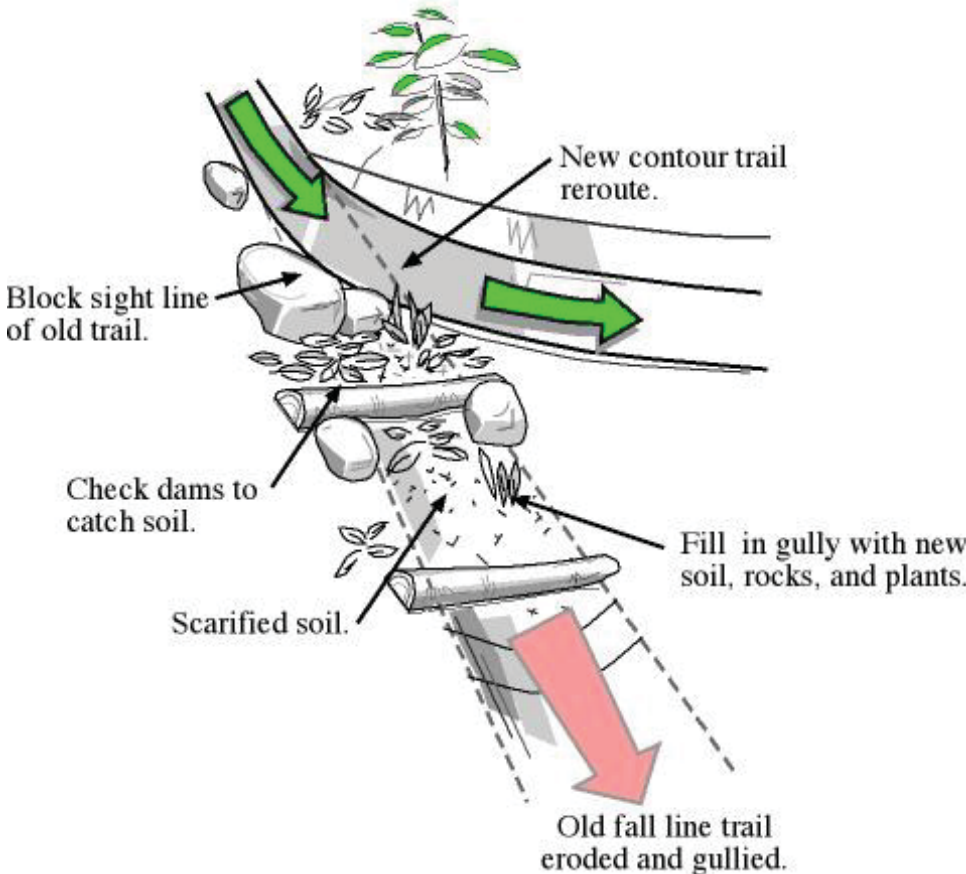

Figure 15: Trail Closure
4.17 Trail Closure or Trail Obliteration (figure 15)